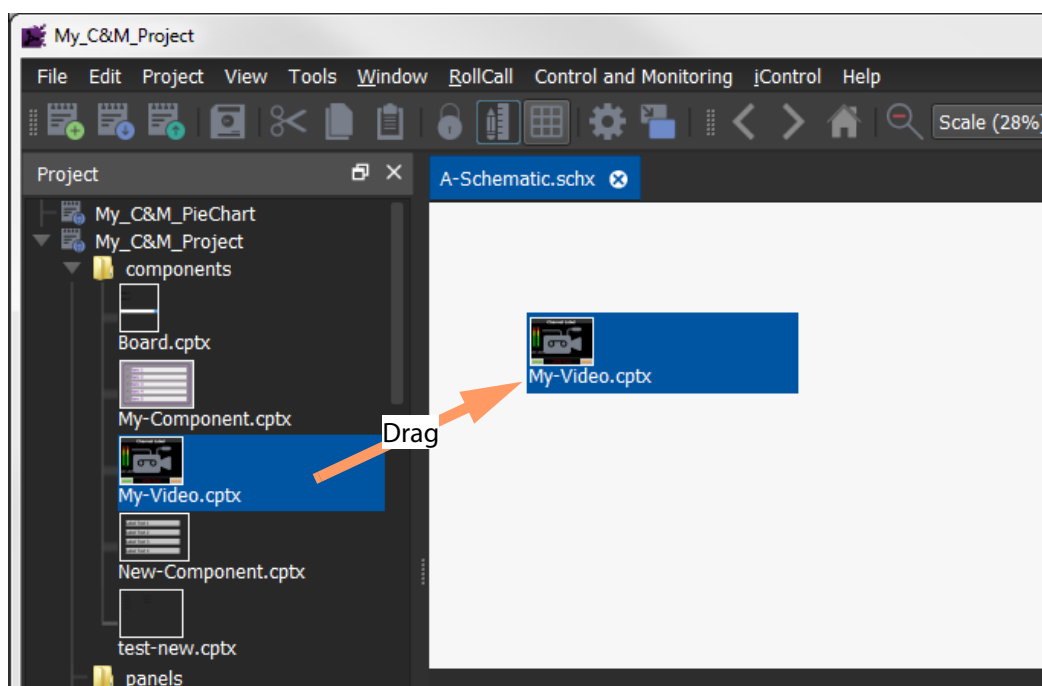

Fig. 4-2: Drag Component onto Screen Schematic
- 4 Drag the component onto the screen. See Figure 4-2.